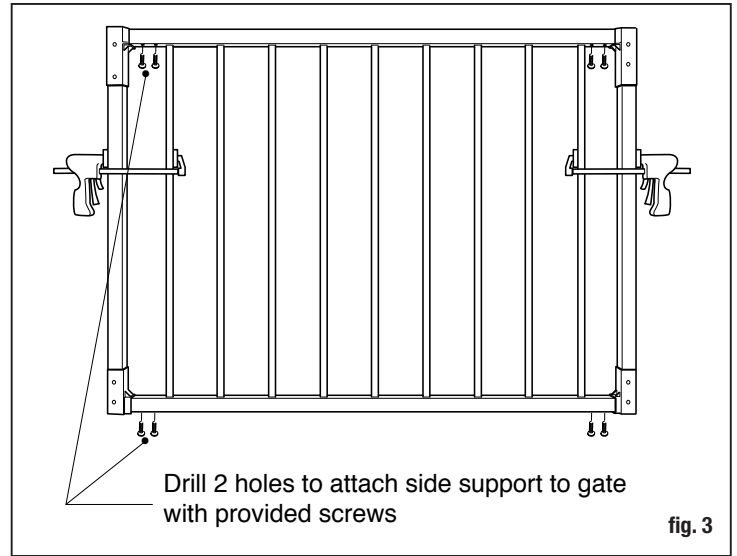

fig. 3
**Step 6** Attach the side supports to the gate panel (A) using 2 #10-16 x 3/4" screws through the underside of the top and bottom rails into the splice on the side support connectors. Use quick clamps to hold the sides tight while you fasten the screws. Predrill holes using a 1/8" HSS (High Speed Steel) drill bit. Use care to avoid marring the post with the drill chuck. Turning the gate upside down may make this step easier (fig. 3).